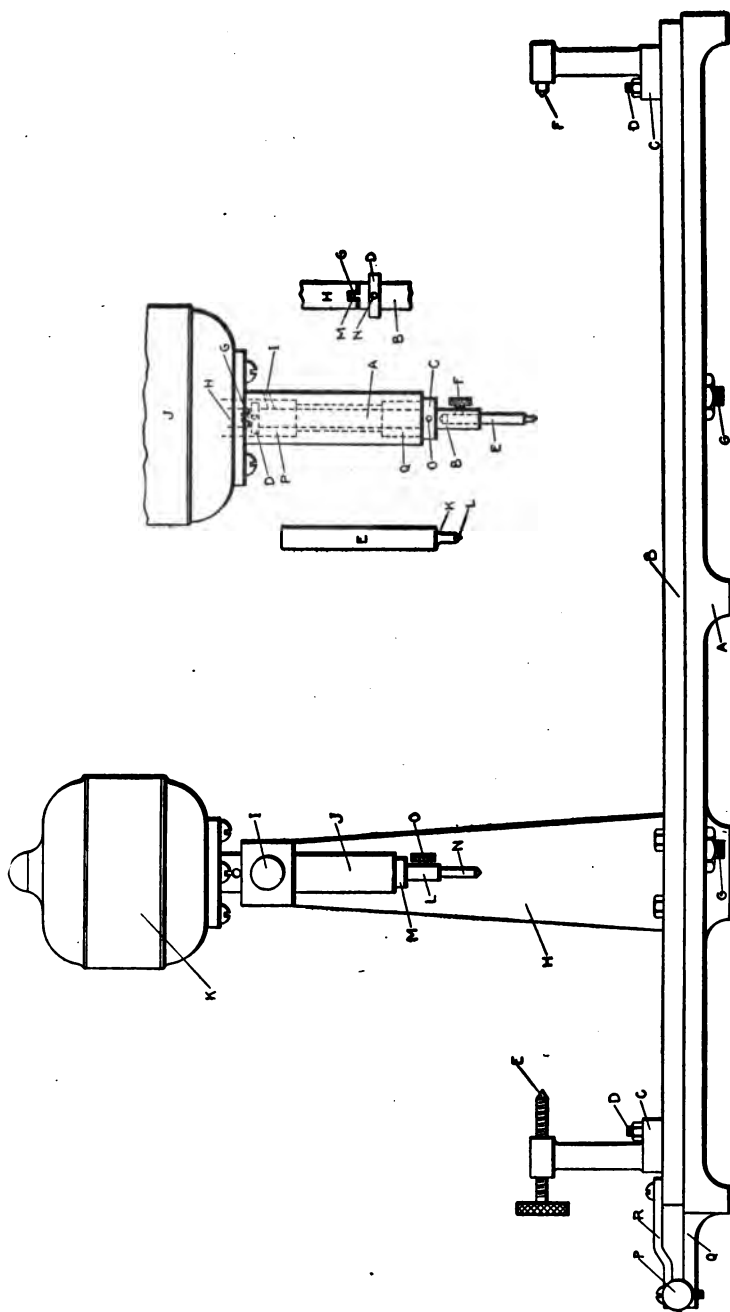

Fig. 472. Machine for Removing Mica from Between the Commutator Segments
*Design.* In Fig. 472 is given a side view of a motor-driven machine. The base *A* is made of cast iron 24 inches long, 5½ inches wide, and 1½ inches high; sliding on this base is a carriage
The needle assembly, Fig. 472, consists of a spindle *A*, on which is mounted the motor *J* screwed to the flange. The shaft *B* is a piece of  $\frac{1}{4}$ -inch drill rod, which comes perfectly true and smooth. A collar *C* is pinned on with a  $\frac{1}{16}$ -inch pin *O*; the spindle is bored out to take two bronze bushings *P* and *Q*, which
are pressed in and reamed to  $\frac{1}{4}$  inch. An oil hole *I* is drilled to oil the upper bearing, the surplus oil running down the shaft and oiling the lower bearing. The shaft is placed in the spindle and a collar is pinned on at the top *D*. The detail sketch in Fig. 472 shows the end of the shaft, which has a tongue *G* fitting into a slot *M* in the motor shaft *H*, giving a positive, though flexible, drive.